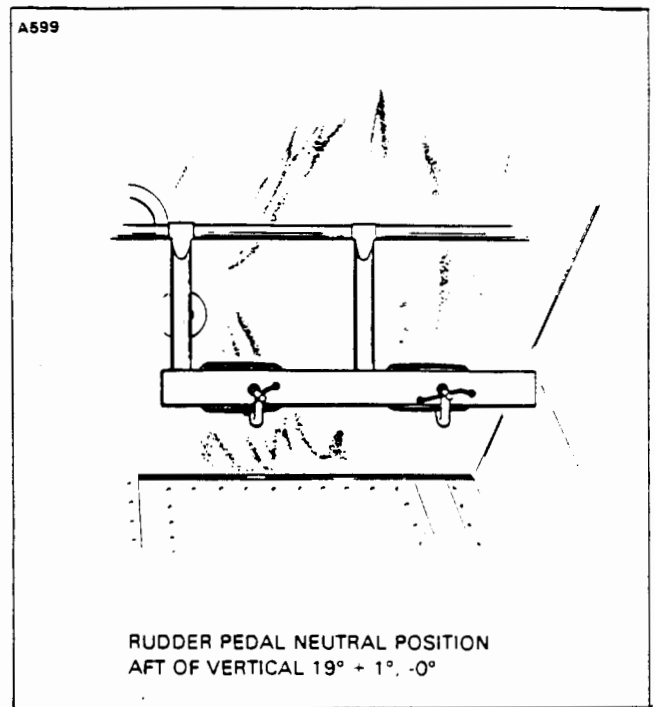

Figure 27-8. Clamping Rudder Pedals
- C. Clamp the rudder pedals to align in a lateral position as shown in Figure 27-8.